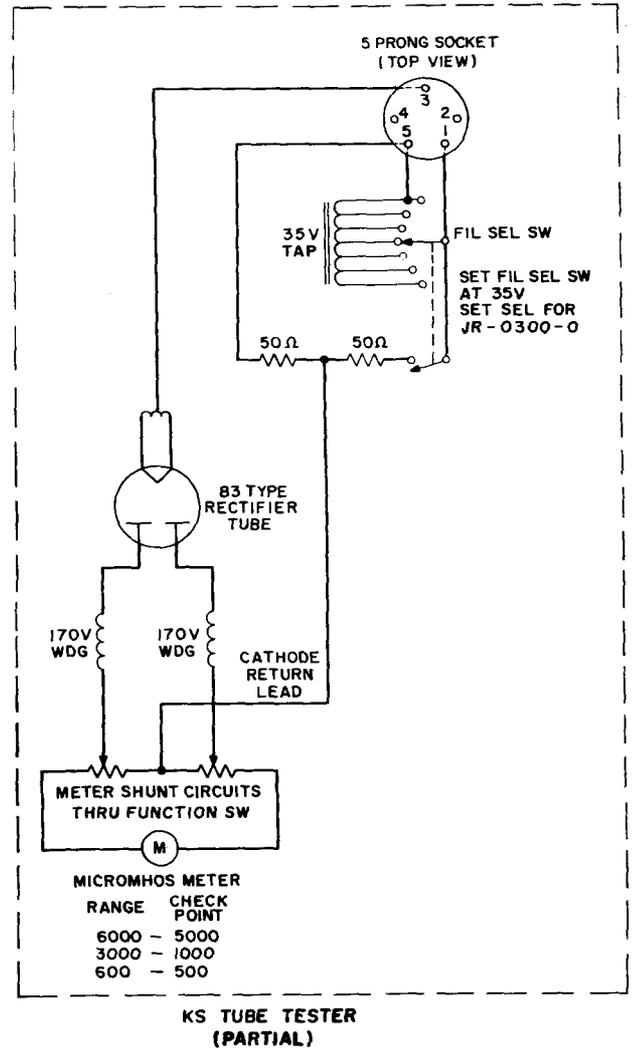

Fig. 3 — Micromhos Meter Calibrator, Application Circuit
2.08 As discussed in 2.05, appropriate load resistors in series with 6 and 30 volts simulate an amplified 60-cycle signal in the micromhos meter circuit. The ideal values of these load resistors are 6000 ohms in series with 30 volts to check the HI 3000 and LO 6000 micromhos ranges. The LO 600 range has an ideal value of 11,530 ohms in series with 6 volts. Each of these ideal values is reduced by 50 ohms in the calibrator to compensate for a 50-ohm value in the cathode return circuit of the KS tester being checked. This 50 ohms is  $\frac{1}{2}$  of a filament-winding midtapped 100-ohm resistor which appears in all KS-type testers. The applicable part of a KS tester is shown in Fig. 3.